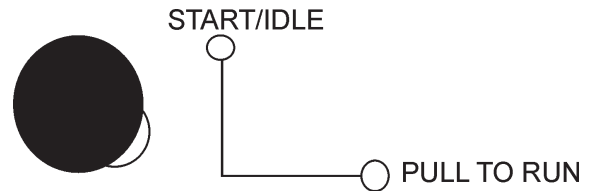

Figure 22. Throttle Lever (Low Speed)
1. Place engine throttle lever (Figure 22) in the **START/IDLE** position (low speed).